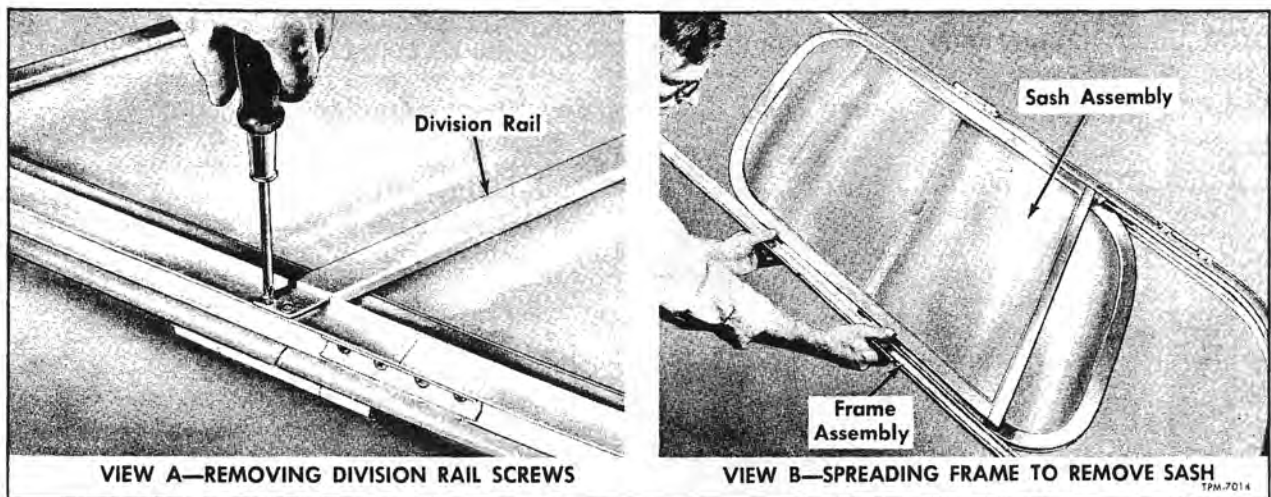

Figure 9—Replacing Side Window Sash Assemblies
3. Remove two screws which attach one end of tie bar to window frame (View "A," fig. 9). Purpose of tie bar is to prevent window frame from spreading in the center when window is being car-
4. Referring to View B, figure 9, spread window frame in the center only enough to permit removing sash and glass sections from frame channels.
4. Spread window frame apart at center only sufficiently to allow installing sash in frame channels (View B, fig. 9).
5. Install tie bar to window frame with screws (View A, fig. 9).